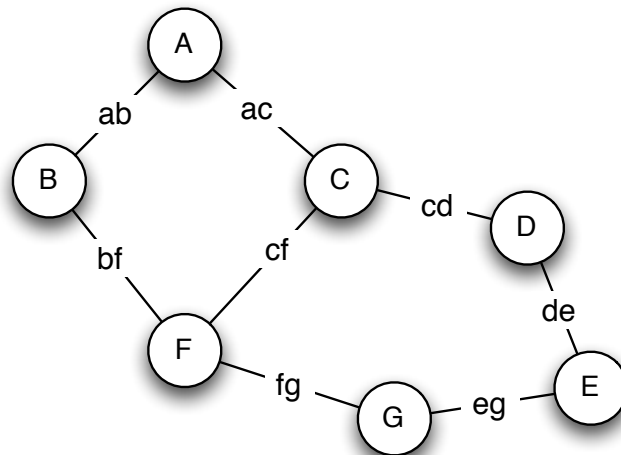

Figure 1: A simple map.
**Question 16:** The file `cityTest.py` contains definitions of a transition function and a legal input function for the world shown in figure 1. Read them and be sure you understand what they are doing.
**Question 18:** Create an instance of `Planner` using the state machine you just made to represent the city graph in figure 1. Use this instance to plan a path from state 'A' to state 'G'. If you do this inside `cityTest.py` file, it will use the `Planner.pyc` file that we have given you.